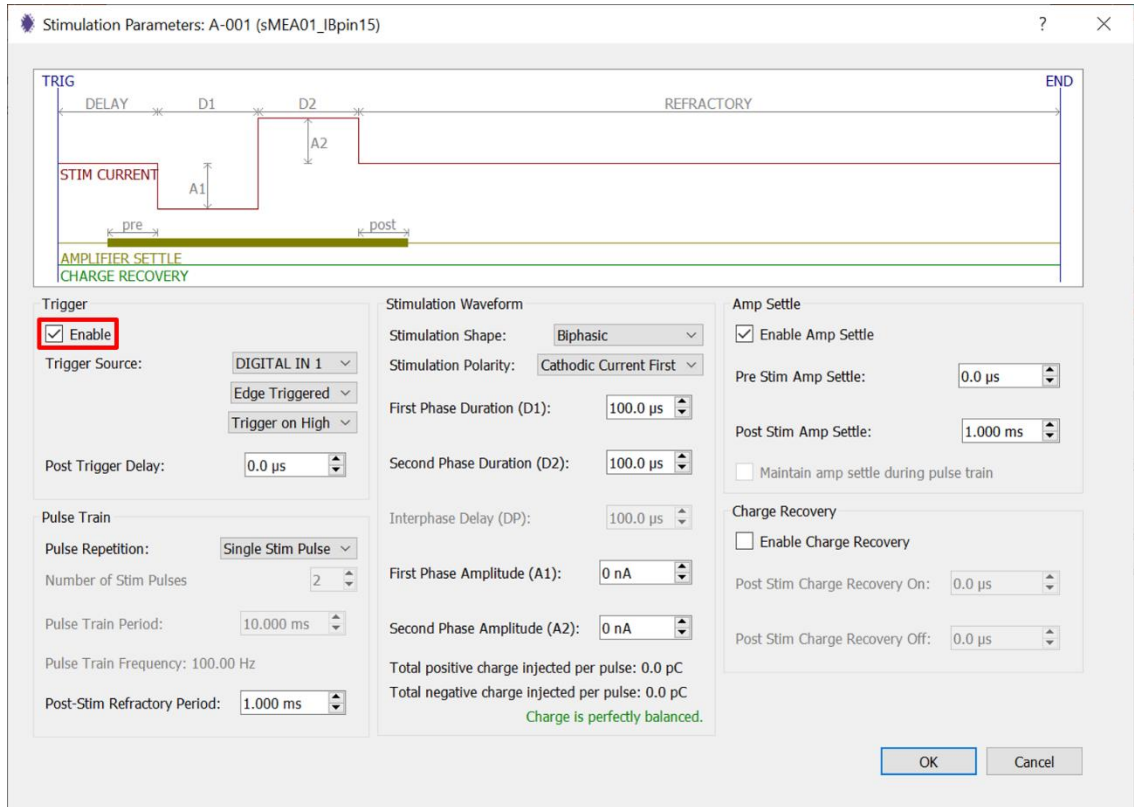

Fig. 70: Stimulation Parameters window with the "Enable" box checked.
- 3) To access and adjust the stimulation parameters, the stimulation trigger must first be enabled by checking the "Enable" box (red box in **Fig. 70**).